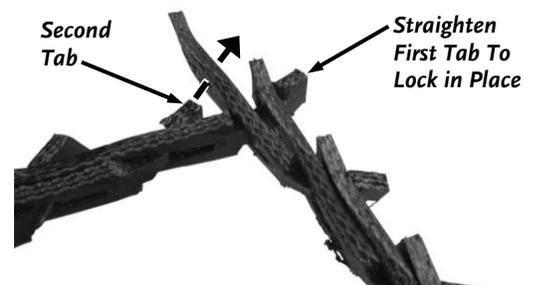

Figure 21
- Twist the end of the Tab to lock it into position (**Figure 21**).